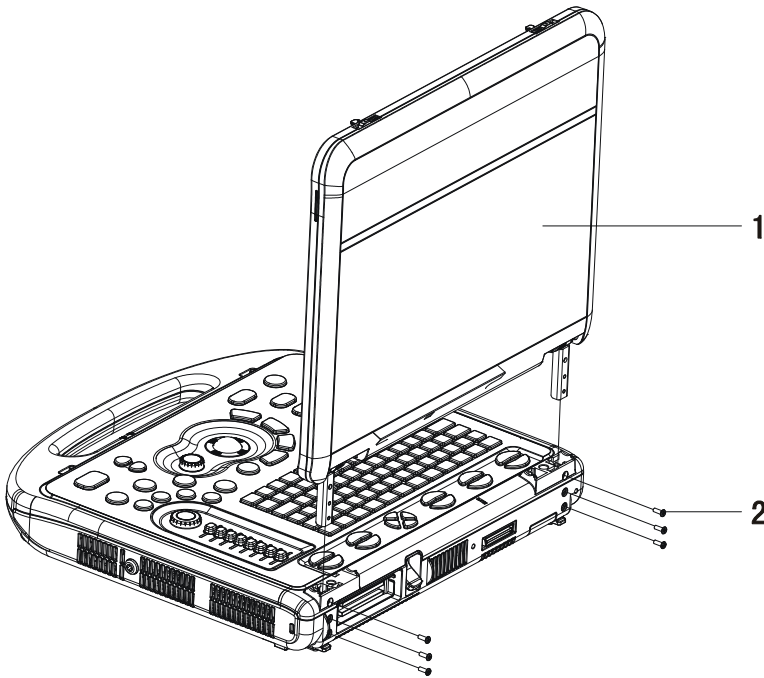

Figure 4-5 Removing the Display
- 4) As shown in Figure 4-5, remove six M3×8 screws; take out the display assembly upward from the assembly. Note that you do not damage the display signal cable and power cord and connectors during removal.